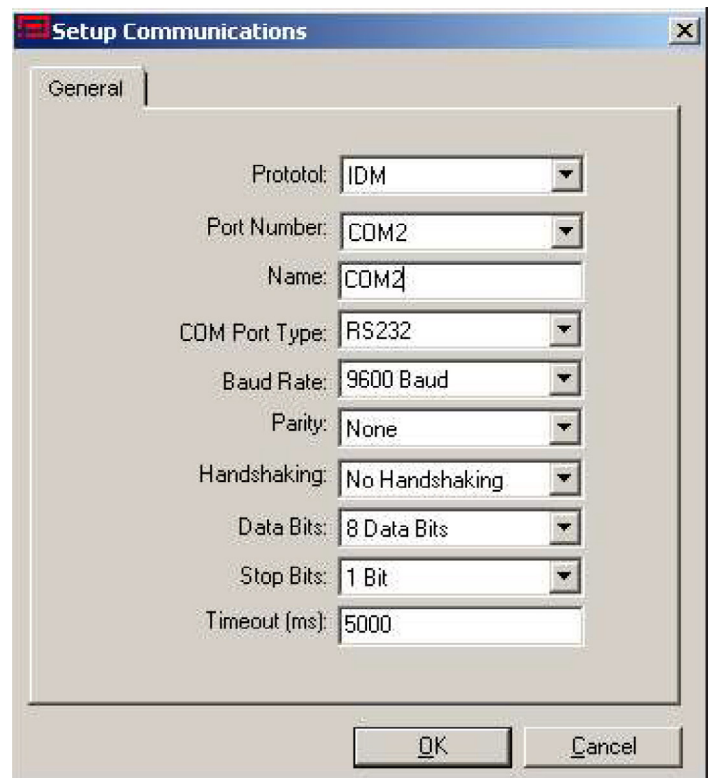

Figure 78: Setup communications screen
4. Click on the "Communications Port" option to select it. The *Setup Communications* screen appears similar to *Figure 78* below.